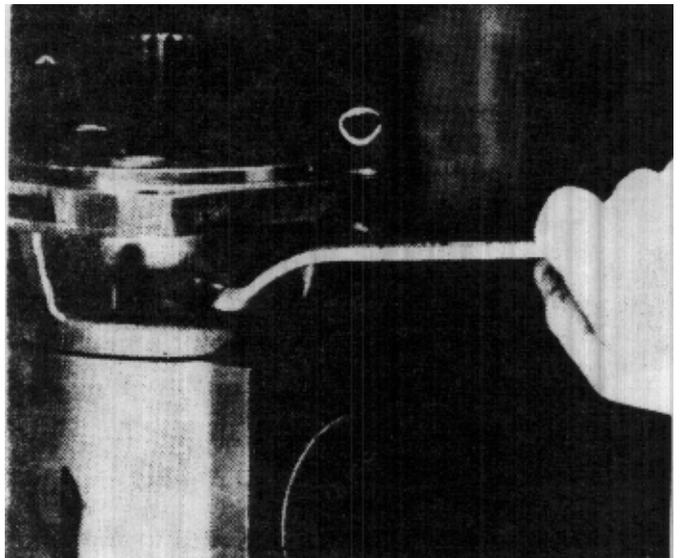

FIGURE 76
4. Remove nuts (21) and washers (22) from the flange. (Fig. 76)